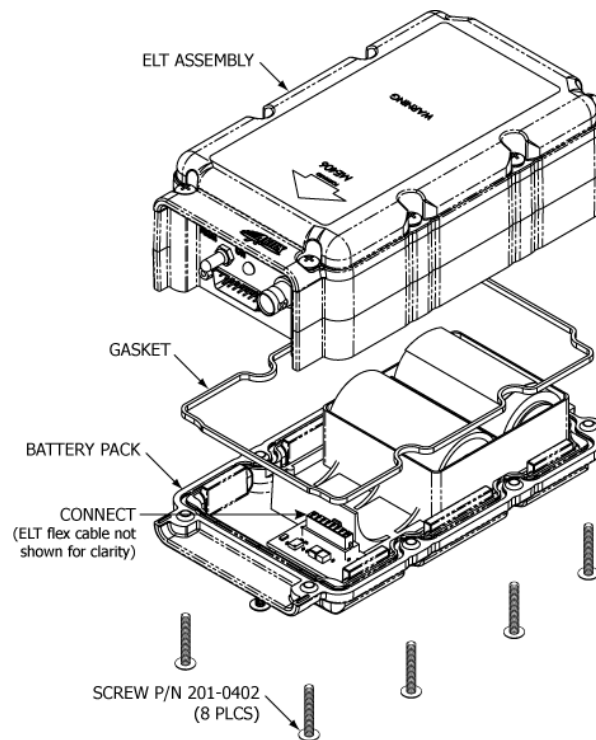

Figure 28 Battery Pack Installation
- 2) See Figure 28 Battery Pack Installation.